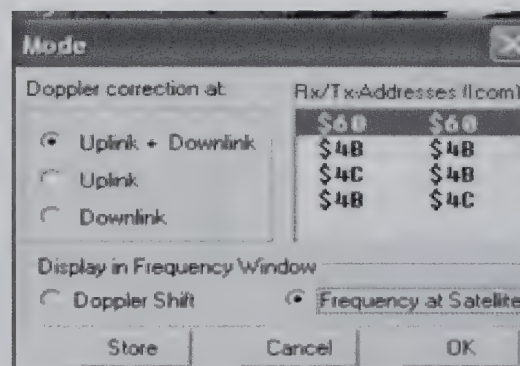

Figure 12.
C) Frequency Display: The frequency appears in the top center of the window (Figure 12). It shows the Downlink and Uplink frequencies for the selected satellite. There are two display options here. Click on "Mode" in the Menu Bar at the top of the window.